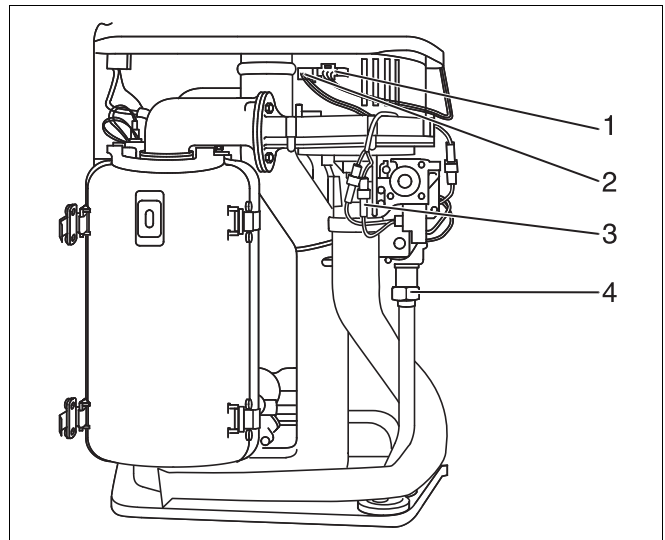

Fig. 60 Loosen the union nut and remove the cable
- Loosen union nut on gas valve assembly (fig. 60, item 4).
- Release plug-in connection of fan power lead (fig. 60, item 1), burner-control unit fan control lead (fig. 60, item 2) and gas-burner assembly (fig. 60, item 3).